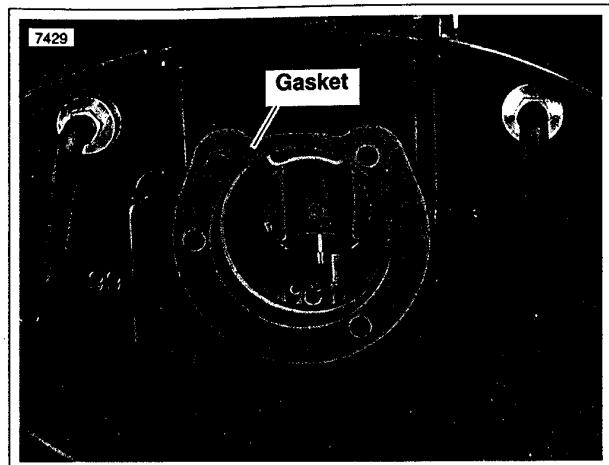

Figure 1-53. Gasket Installation
1. See Figure 1-53. Position new gasket on backplate.